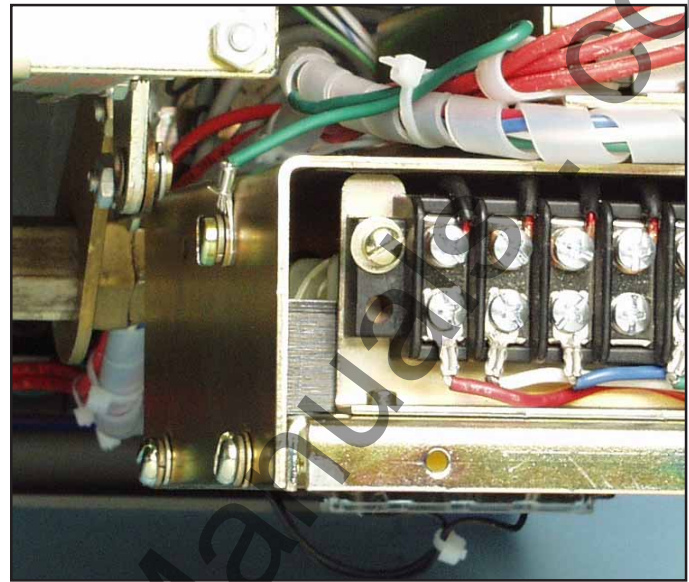

Fig. 22 Ground Wire Connected to the Aux. CT Module.
- O. Using the (1) .190-16 x .500" thread cutting screw, connect the green ground wire from the Sensor Harness (with ring terminal) to the Aux. CT Module. Fig. 22 Ground Wire Connected to the Aux. CT Module